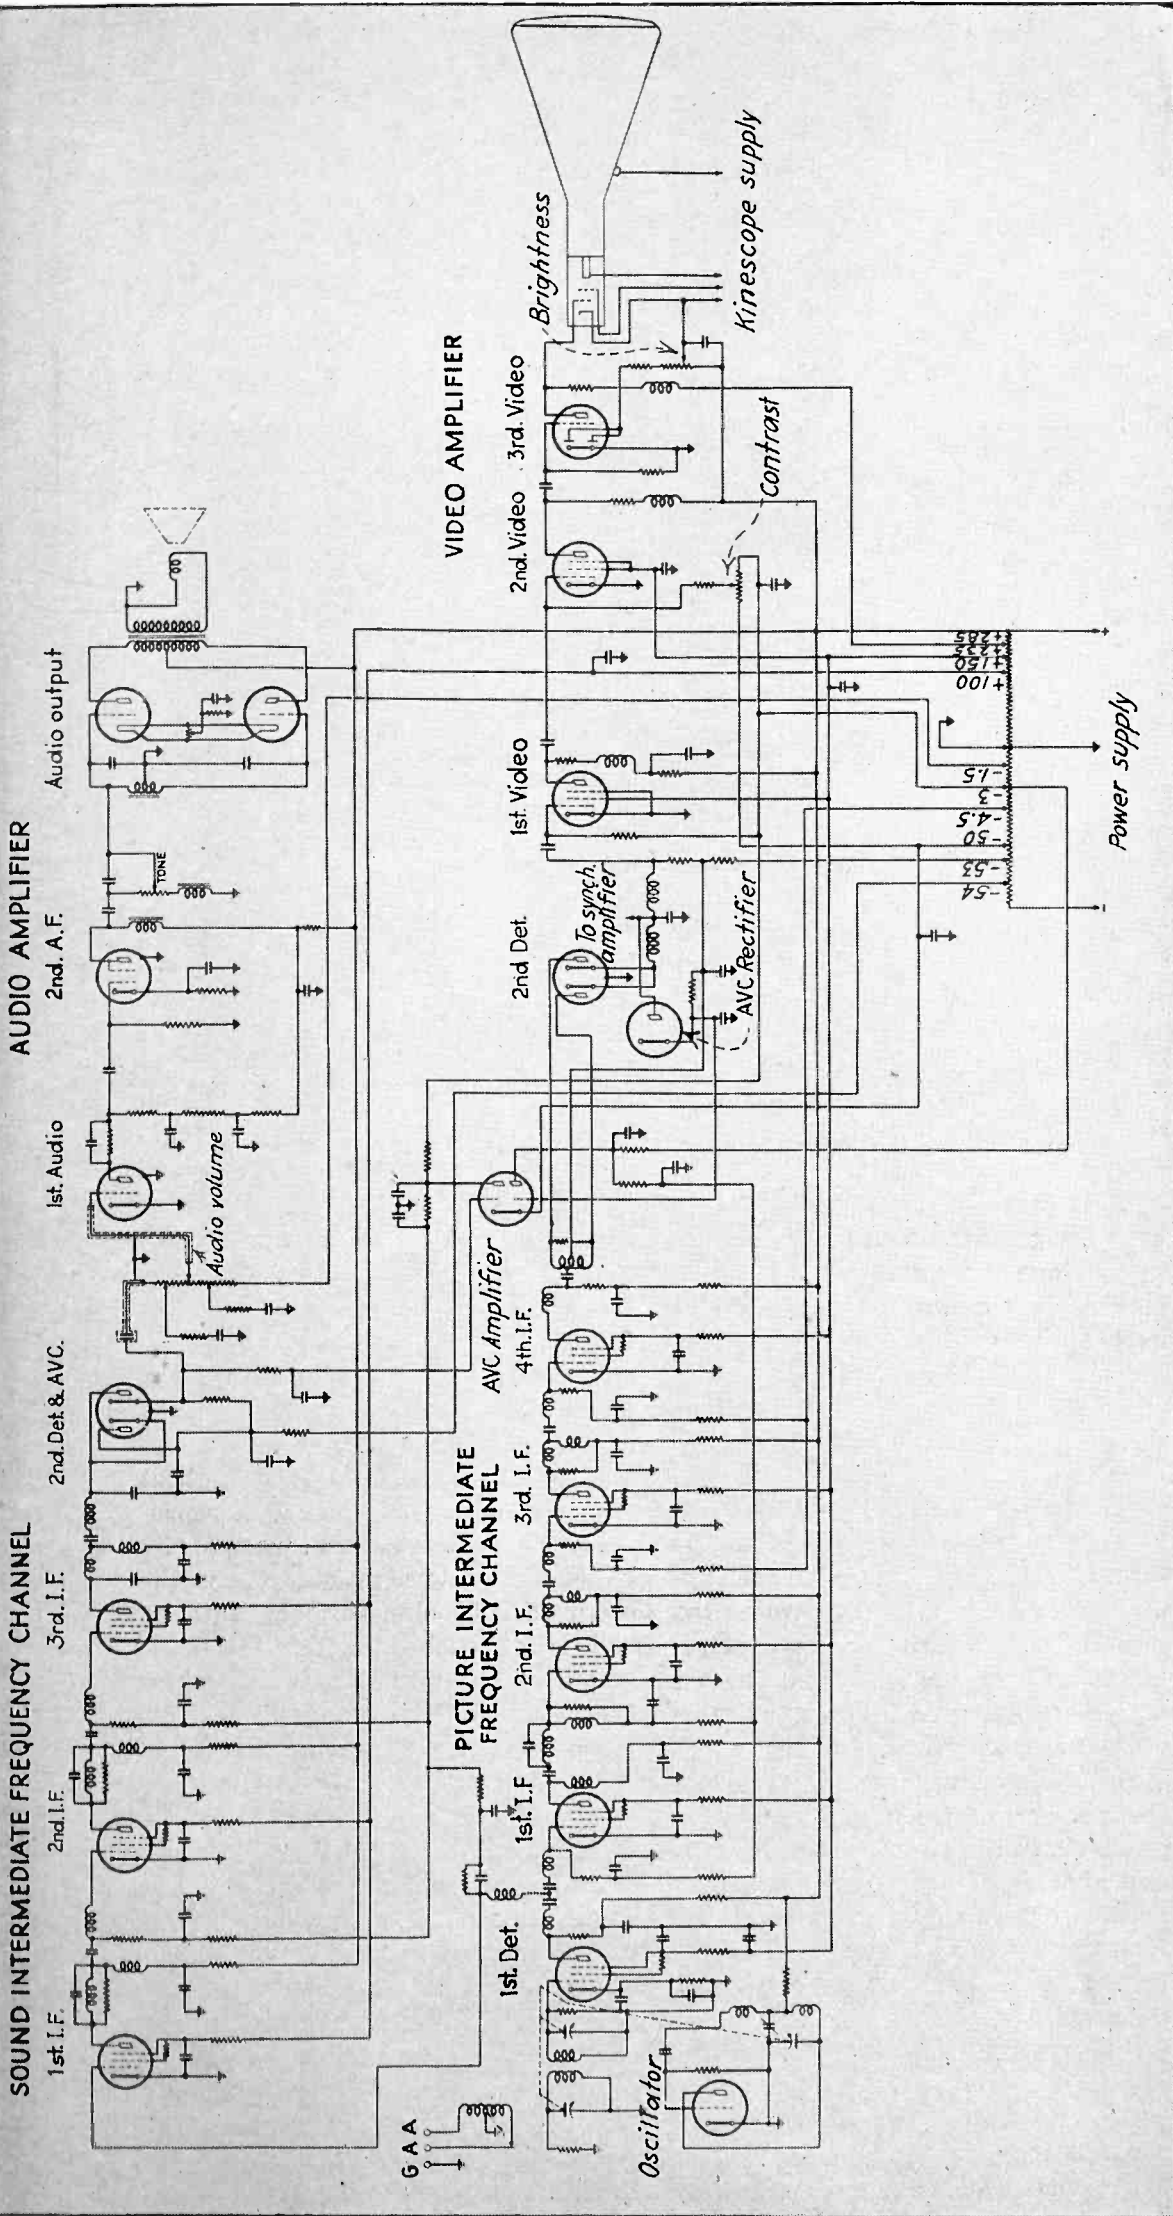

Fig. 3—Circuit diagram showing the portions of the receiver thus far described
This arrangement is used in the cardiometer. It is shown in Figure 3-C. (3) In case the two triodes are in a single bulb and have a common cathode a resistance may be used in the cathode lead for regeneration. A single battery in this lead or, as shown in Figure 3-D, individual batteries in the separate grid-leads, will then be required to bring the total grid-bias potential to the proper value.
as shown in the circuit diagram of Fig. 3. The principal difference between this circuit and the diode detector circuit normally used for sound is that in order to maintain the proper video fidelity the diode load resistance must be very much smaller, usually of the order of 2500 ohms or less. It is not necessary that the diode be full wave, but with a full wave diode the intermediate frequency appearing across the diode load resistance is doubled, and is consequently more easily eliminated from the v-f amplifier.
On the circuit diagram of Fig. 3, the tube marked "AVC rectifier" furnishes the AVC control voltage for the receiver. It is connected across the diode load resistor in such a manner that it draws current on the positive excursion of voltage across the resistor—that is, on synchronizing pulse peaks. This current charges the capacitor in the cathode of the rectifier to a d-c potential equal to the peak of the television signal. The time constant of the circuit consisting of the cathode capacitor and the resistor across it is such that the capacitor does not appreciably discharge between successive line synchronizing pulses. This d-c voltage is then proportional to the *peak* value of the i-f signal at the second detector. It is amplified in a d-c amplifier having the customary AVC delay and impressed on the grid re-